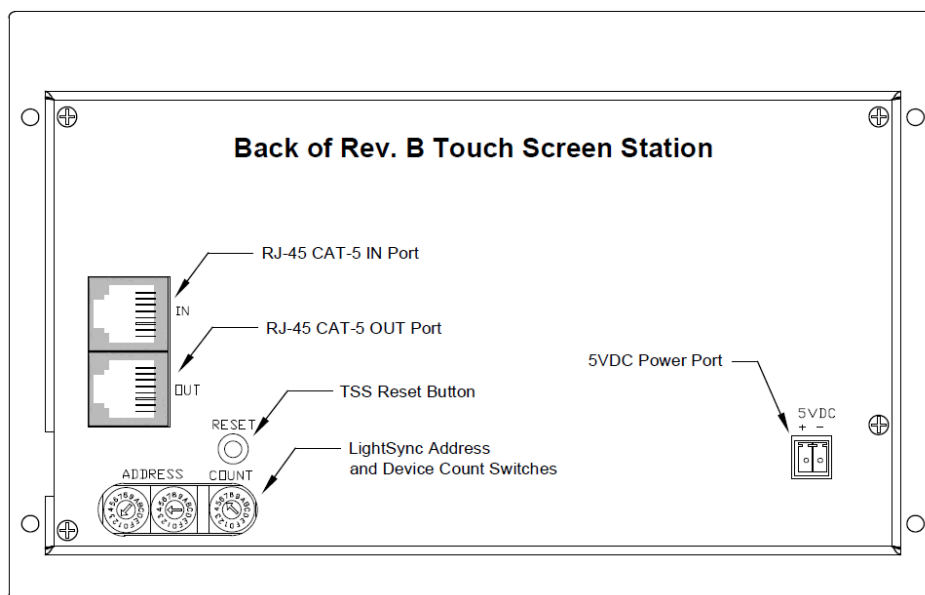

Figure 14 Back of Rev. B Touch Screen Showing Address and Device Count Switches
1. Set the “Base” address with the 2 rotary switches on the back of the LightSync Touch Screen. See figure 14 and 18. Note: This will be the same as programmed in the “Device Options” for “LightSync Node: 24”.
Note: Each switch number equals to 4 devices starting at 0. Refer to Table 1 and figure 14.